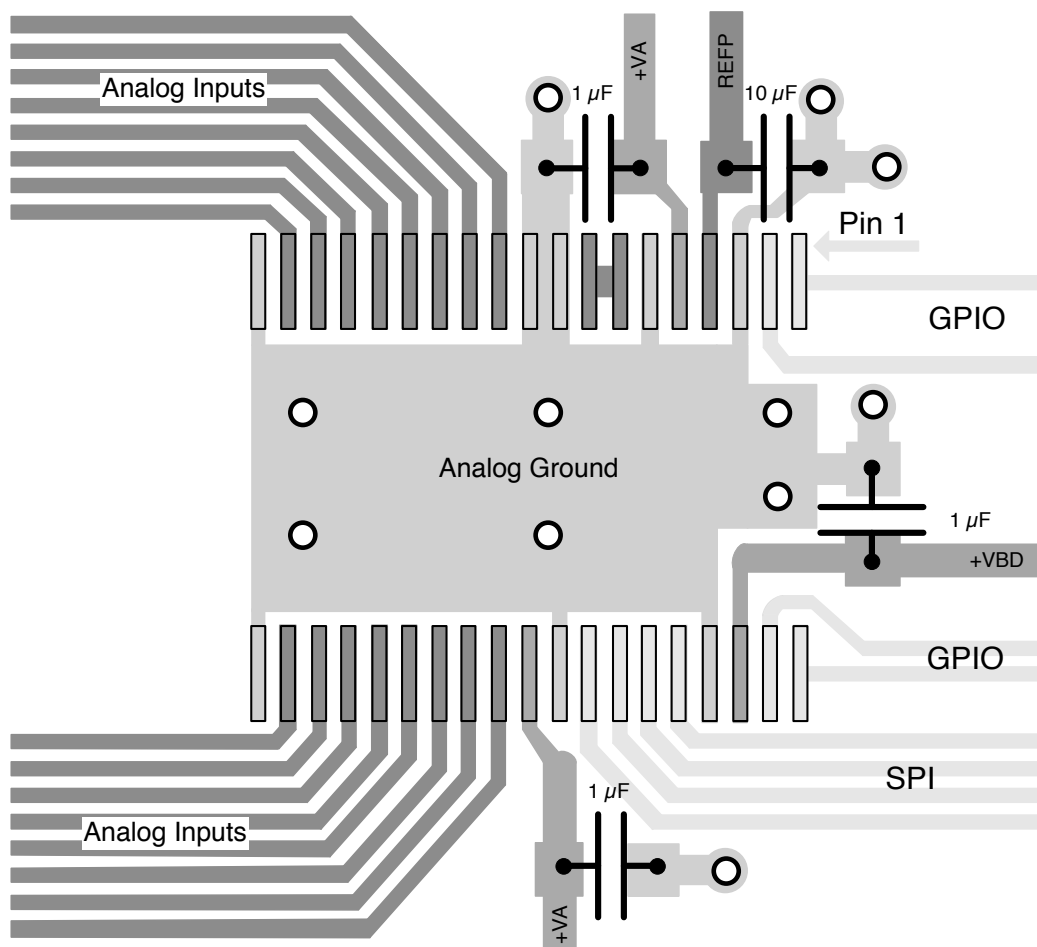

Figure 66. Recommended Layout
- The power sources must be clean and properly decoupled by placing a capacitor close to each of the three supply pins, as shown in Figure 66. To minimize ground inductance, ensure that each capacitor ground pin is connected to a grounding via by a very short and thick trace.
- The REFP pin requires a 10- μ F ceramic capacitor to meet performance specifications. Place the capacitor directly next to the device. This capacitor ground pin must be routed to the REFM pin by a very short trace, as shown in Figure 66.
The full-power bandwidth of the converter makes the ADC sensitive to high frequencies in digital lines. Organize components in the PCB by keeping digital lines apart from the analog signal paths. This design configuration is critical to minimize crosstalk. For example, in Figure 66, input drivers are expected to be on the left of the converter and the microcontroller on the right.